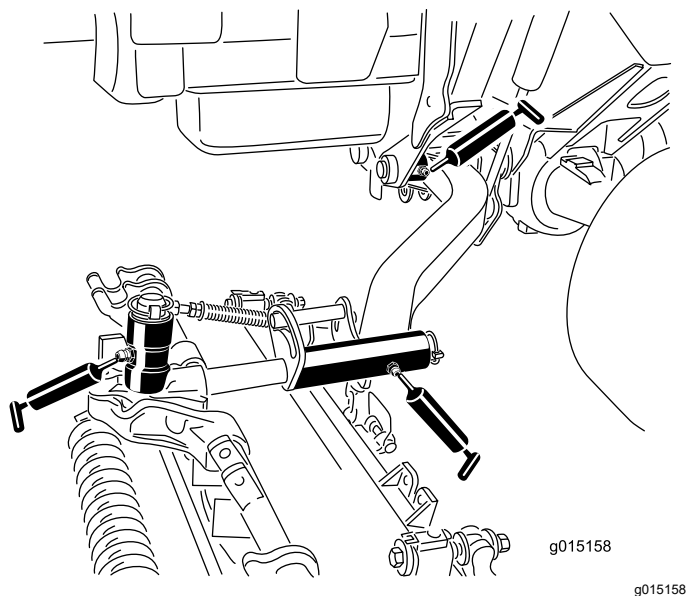

Figure 83
- Lift arm pivot bushings (1 per cutting unit) (Figure 83)
- Cutting unit carrier frame (2 per cutting unit) (Figure 83)
- Cutting unit lift arm pivot (1 per cutting unit) (Figure 83)